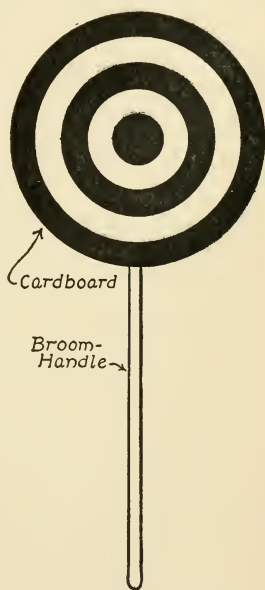

FIG. 240. — A Simpler Target.
**A Simpler Target**, and a scheme which will answer a boy's purpose, if he does not care to go to the trouble of making the hoop target, is shown in Fig. 240. A circular piece of cardboard, with five rings painted upon it, is tacked to the end of a broom-handle, and this is stuck into the ground.